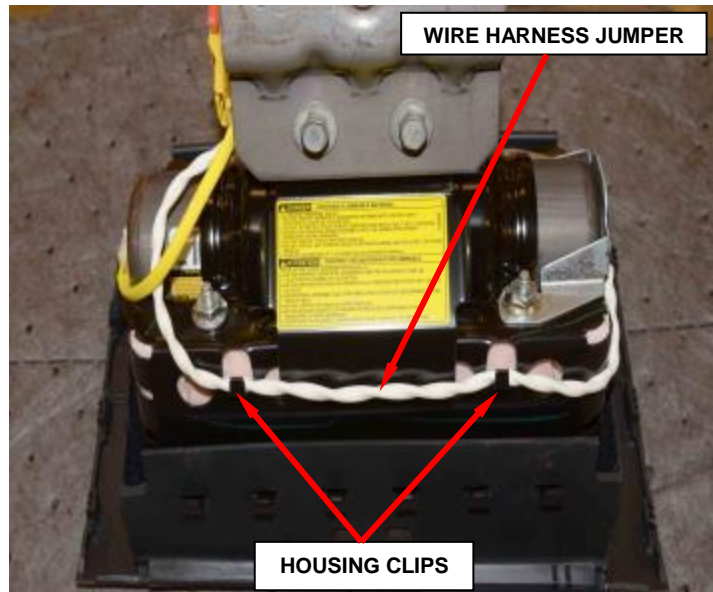

Figure 120 – Passenger Airbag Assembly
- b. Disengage the wire harness jumper from the housing clips in two places (Figure 120).